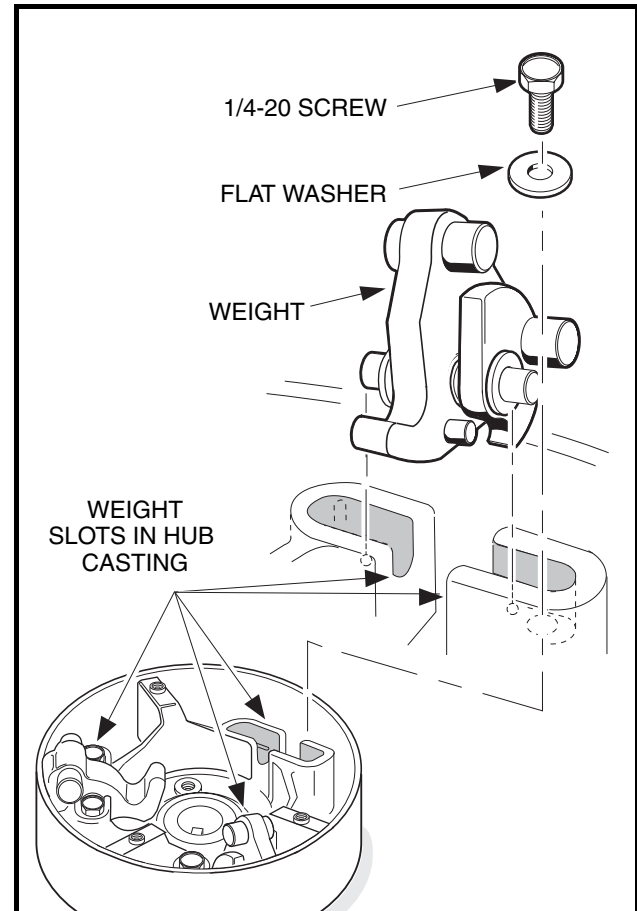
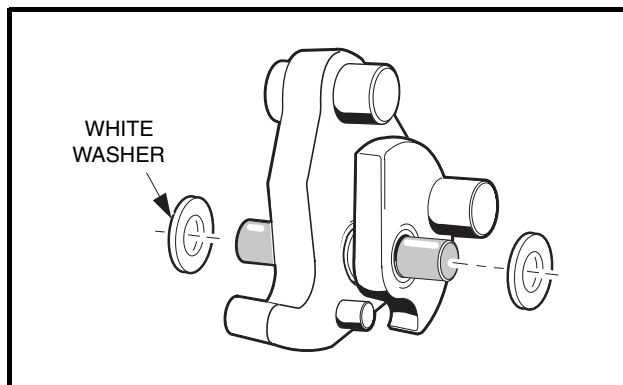

Figure 17-9 Weight Position
Figure 17-14 Install White Washers
5. Remove the clutch weights (**Figure 17-9, Page 17-8**):
- 5.1. Remove the screws and flat washers attaching the weights as shown (**Figure 17-9, Page 17-8**).
10. Install white plastic flat washers on each end of the mounting pin and push them against the outside surfaces of the weights. Center the weights and washers on the mounting pin (**Figure 17-14, Page 17-10**).
11. Install the weight assemblies into the slots in the hub casting (**Figure 17-9, Page 17-8**). Make sure the mounting pin protrudes an equal amount on each side of the weights when the assemblies are in position (**Figure 17-14, Page 17-10**).
15. Install a no. 10-24 button retaining screw with flat washer through each button and into the rib. Tighten the screws to 34 in-lb (3.8 N·m) (**Figure 17-9, Page 17-8**).